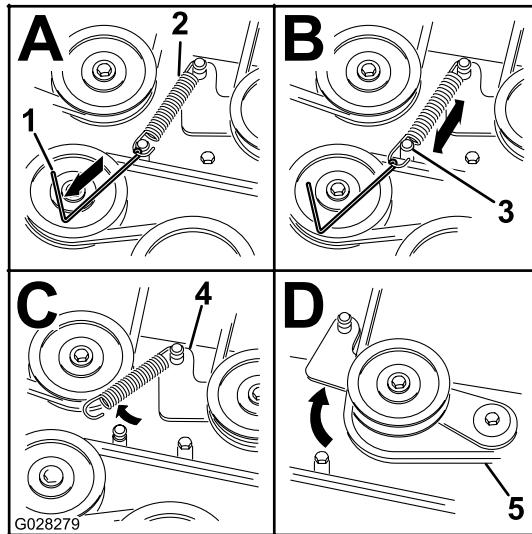

Figure 64
8. Remove the spring tension from the spring-loaded idler pulley. Refer to Figure 64.
Note: Use the spring removal tool (Toro Part No. 92-5771) to remove the spring from the mower-deck post (Figure 64).